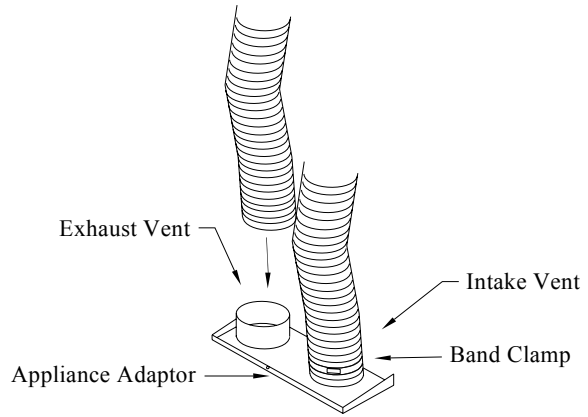

Figure 4 - Attaching Liners to Appliance Adapter
- 13) Slide the Exhaust Vent liner over the left outlet on the appliance adapter. (See figure 4) Secure the liner with one 3" band clamp.